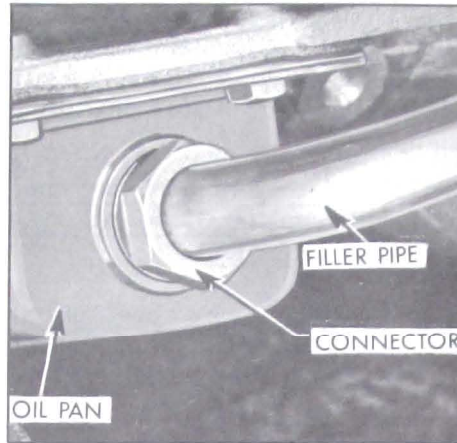

Figure 1-15—Automatic Transmission Drain Points
b. Remove filler pipe fitting from oil pan and allow oil pan to drain completely. Do not remove accumulator caps. See Figure 1-15. Converter need not be drained.
d. Put 3 quarts of specified oil (subpar. 1) in transmission. With engine idling and transmission in Parking (P) complete the refilling to bring oil level to "FULL" mark on gauge rod. When transmission oil is warmed up, the oil level should then be at "FULL" mark on gauge rod.